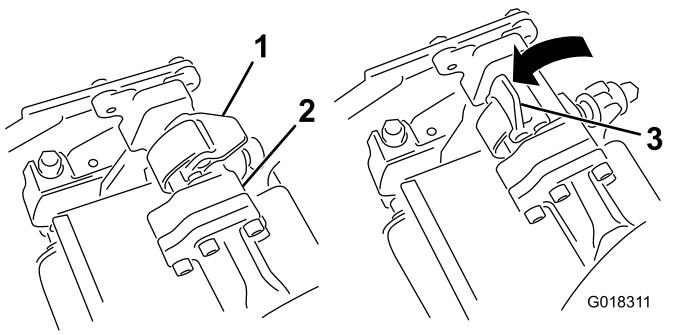
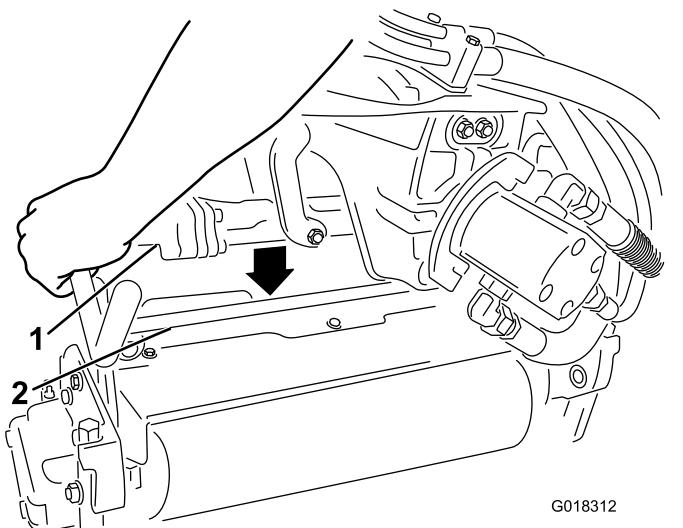

Figure 2
Figure 3
3. Close the latches to lock the spiker unit in place (Figure 2)
2. With the latches on the suspension-arm bar opened (Figure 2), push the suspension arm down so that it fits over the bar across the top of the spiker unit (Figure 3).